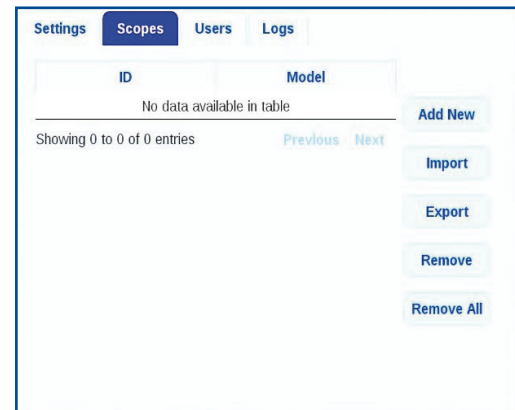

Fig. 47
1. To add new scopes, press the **Scopes Tab** to begin (Fig. 47).